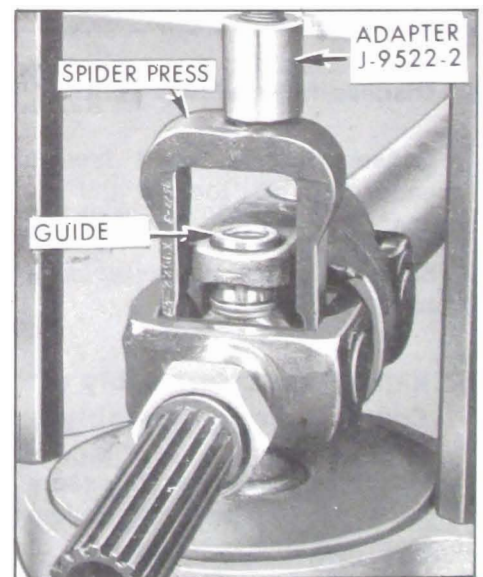

Figure 6-98—Removing Bearing with Guide and Spacer in Place
6. Install Spacer J-9522-5 adjacent to the bearing as in Step 4 and remove the bearing. See Figure 6-98.